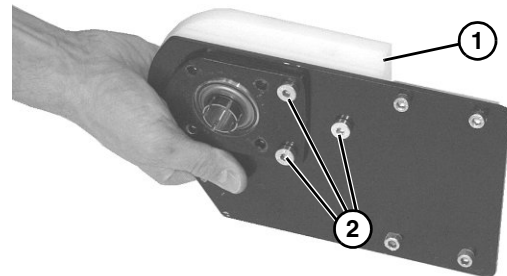

Figure 39
14. Check drive terminal assembly (**Figure 39, item 1**) for wear. If worn, remove three low head cap screws (**Figure 39, item 2**) and replace.